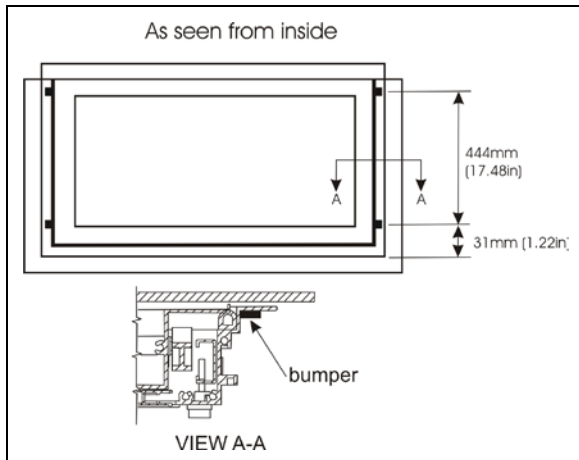

FIGURE 62 : SIDE BUMPERS
3. Glue 4 rubber bumpers (#790610) on the awning window frame as per FIGURE 62.